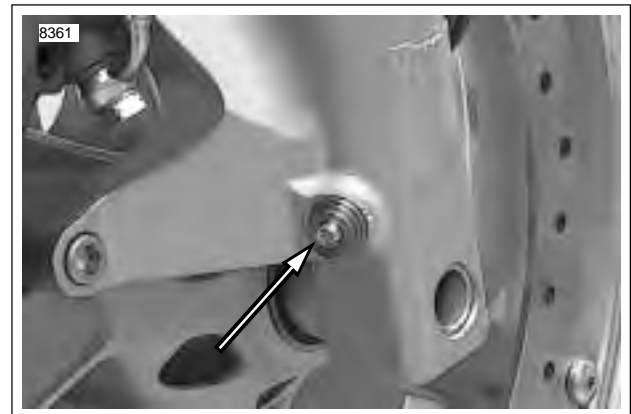

Figure 1-31. Front Fork Compression Damping Adjuster
1. See Figure 1-31. Using a screwdriver, turn the slotted dial clockwise until it stops. This is the maximum compression damping setting.